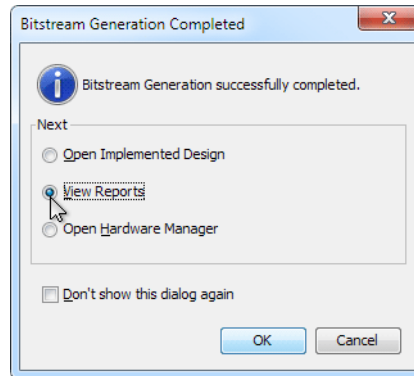

Figure 5: Bitstream Generation Completed
- When complete, select **View Reports** and click **OK** (Figure 5).